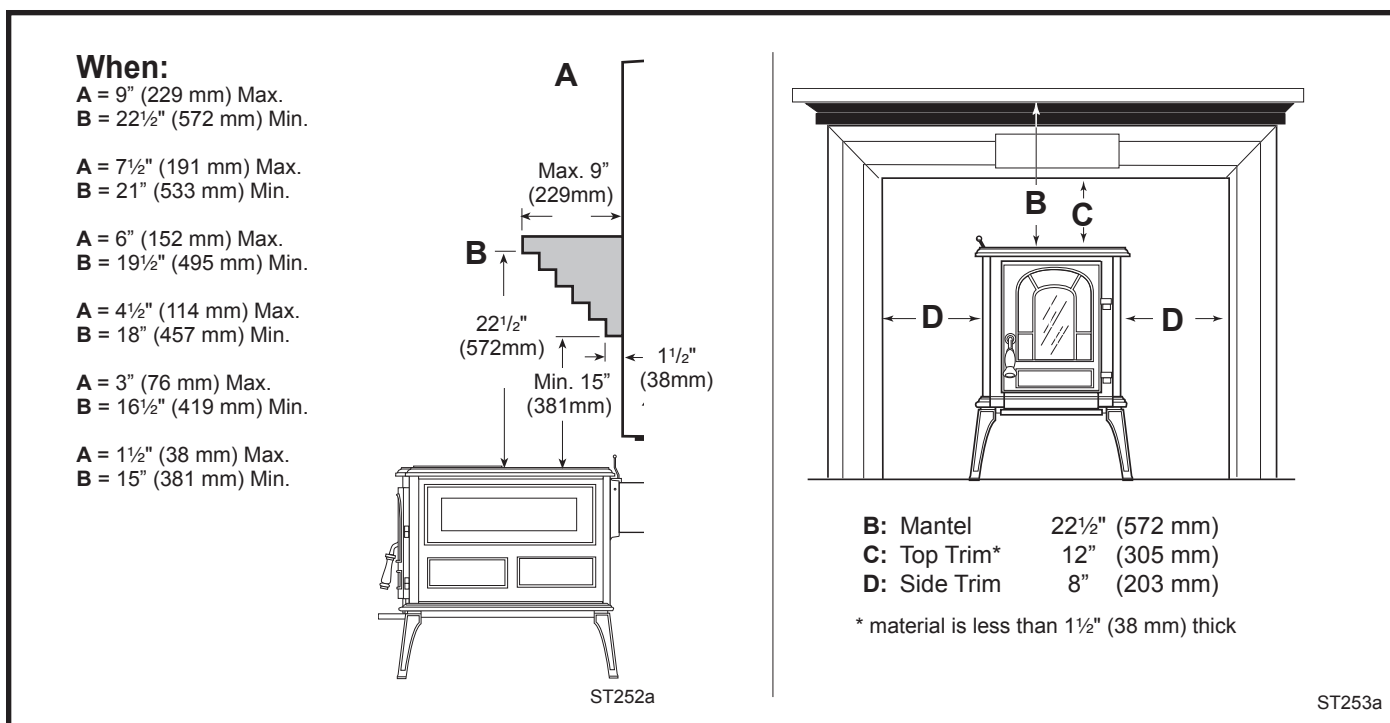

Fig. 20 Mantel and trim clearances.
Maximum Mantel depth (A, Fig. 20) of a combustible mantel is 9" (230 mm). At that depth, the clearance to the stove top (B) must be a minimum of 22½" (572 mm).
Side Trim must have a minimum clearance of 8" (203 mm), measured from the stove's top edge. (D, Fig. 20)